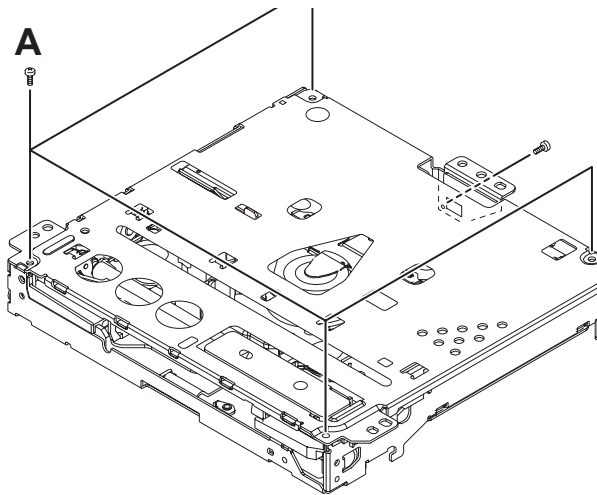

Fig.3
(4) Remove the five screws **A** attaching the Top cover assembly. (See Fig.3)